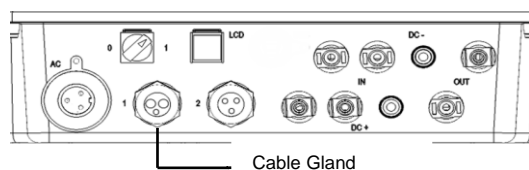

Figure 2: Cable Gland Location on SMI
- 6 Open gland #1 located on the bottom of the SolarEdge device, as shown in Figure 2. Figure 2 shows the SMI as an example. The procedure is similar for the inverter.